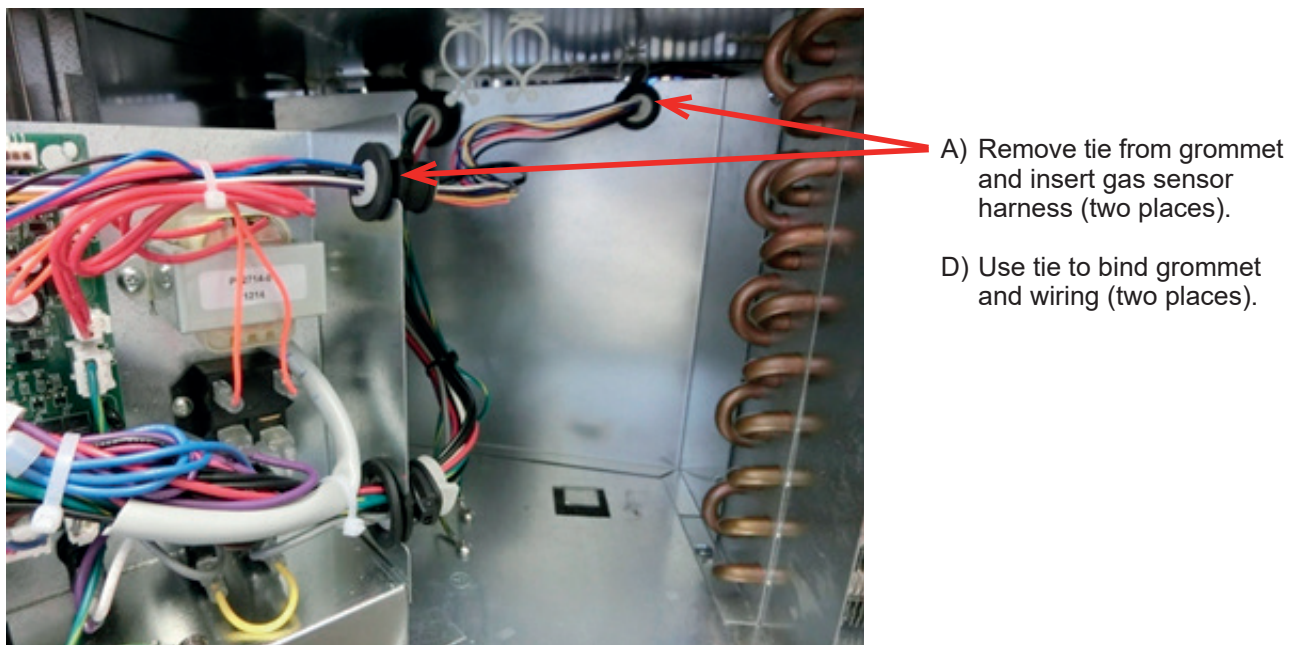

Fig. 34
9) Follow the steps from A to D in Figs. 34 and 35 to attach the gas sensor harness included in the optional parts to the controller board.